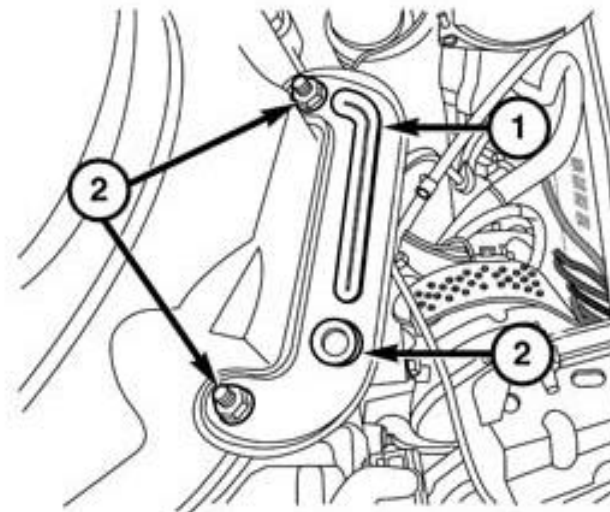

Figure 27 – Exhaust Bracket
- 64. Remove the exhaust bracket (1) from the convertor housing to the exhaust pipe. (Figure 27).